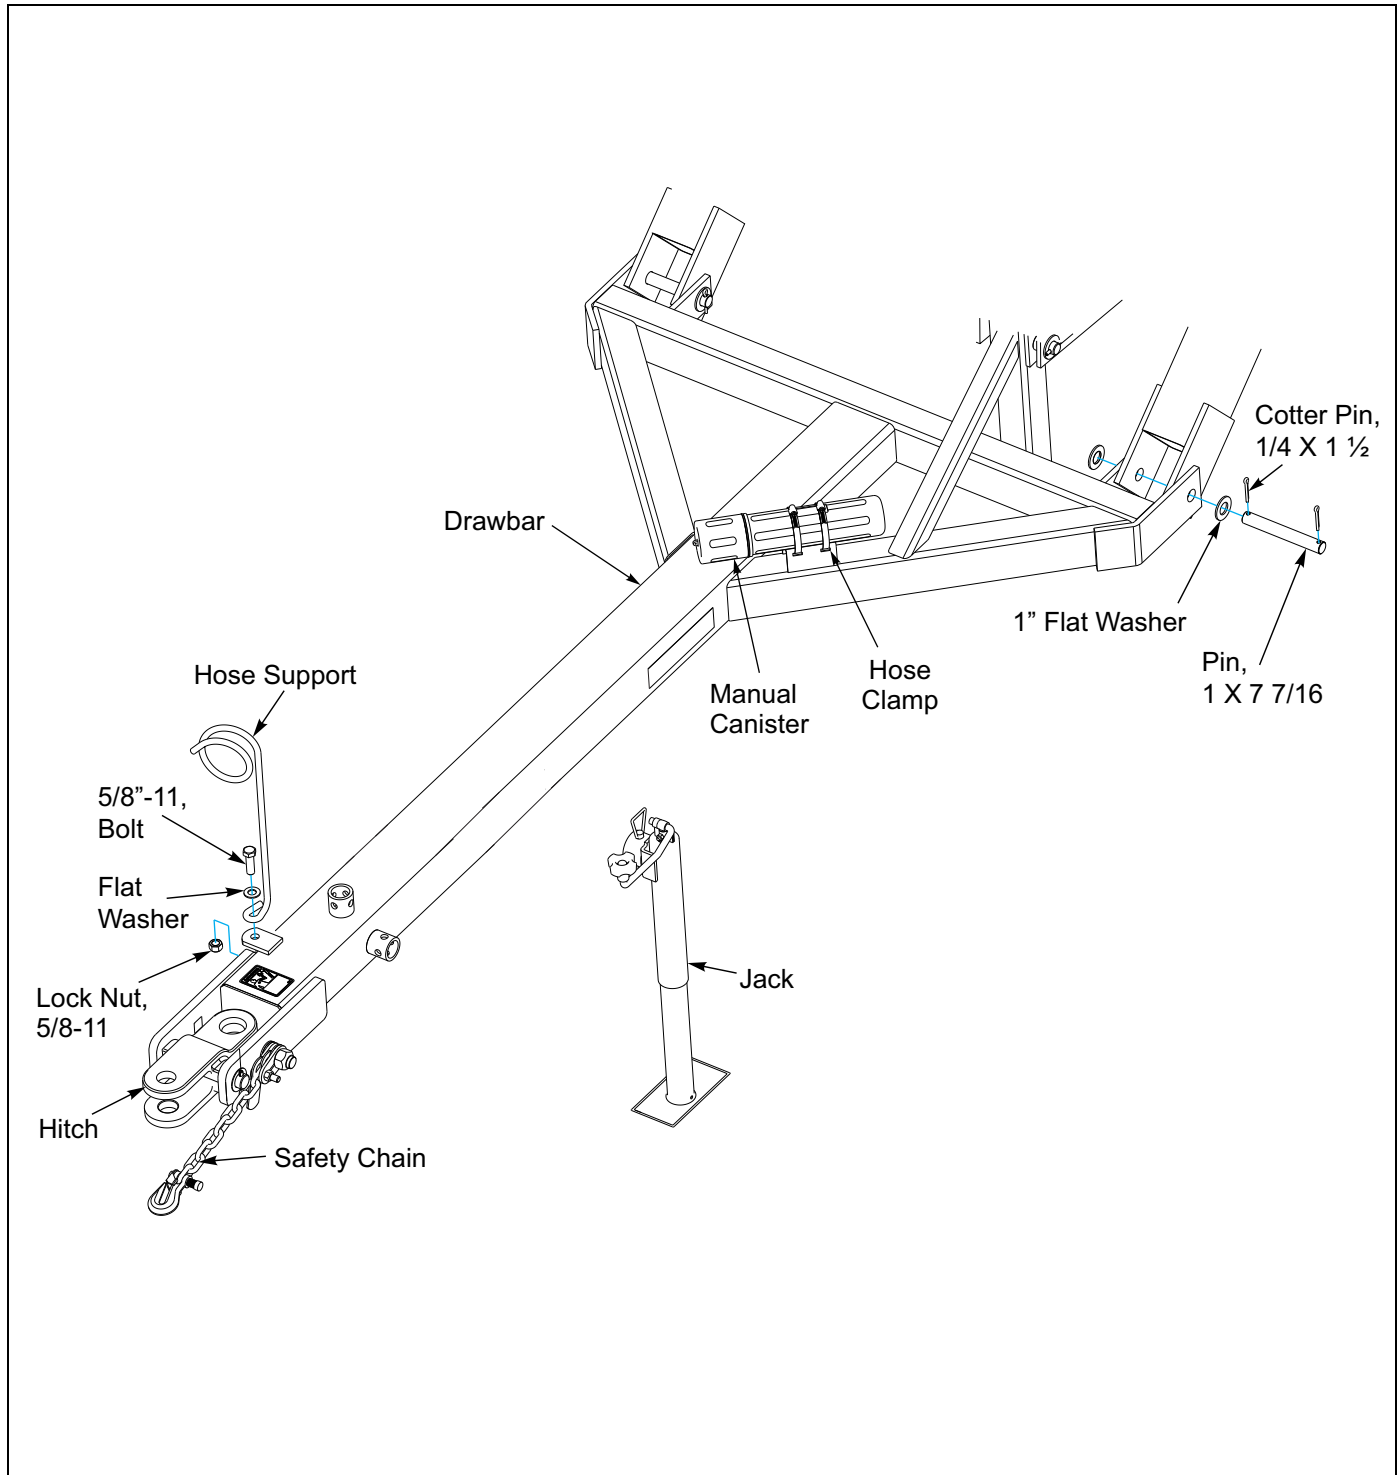

Figure 2-6: Drawbar, Hitch and Safety Chain Installation
1. Attach Drawbar to the Frame using two 1 X 7 7/16 Pins, Flat Washers and 1/4 X 1 1/2 Cotter Pins. See **Figure 2-6**.